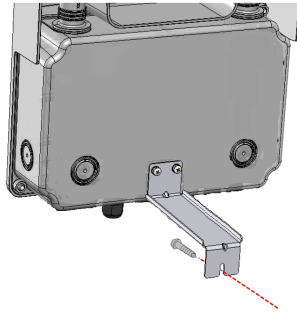

Figure 18: Securing the Connection Unit to the wall
4. Mark the location of the drilling hole required for the screw that secures the bracket of the Connection Unit to the wall (See *Figure 18*) and remove the inverter from the wall.